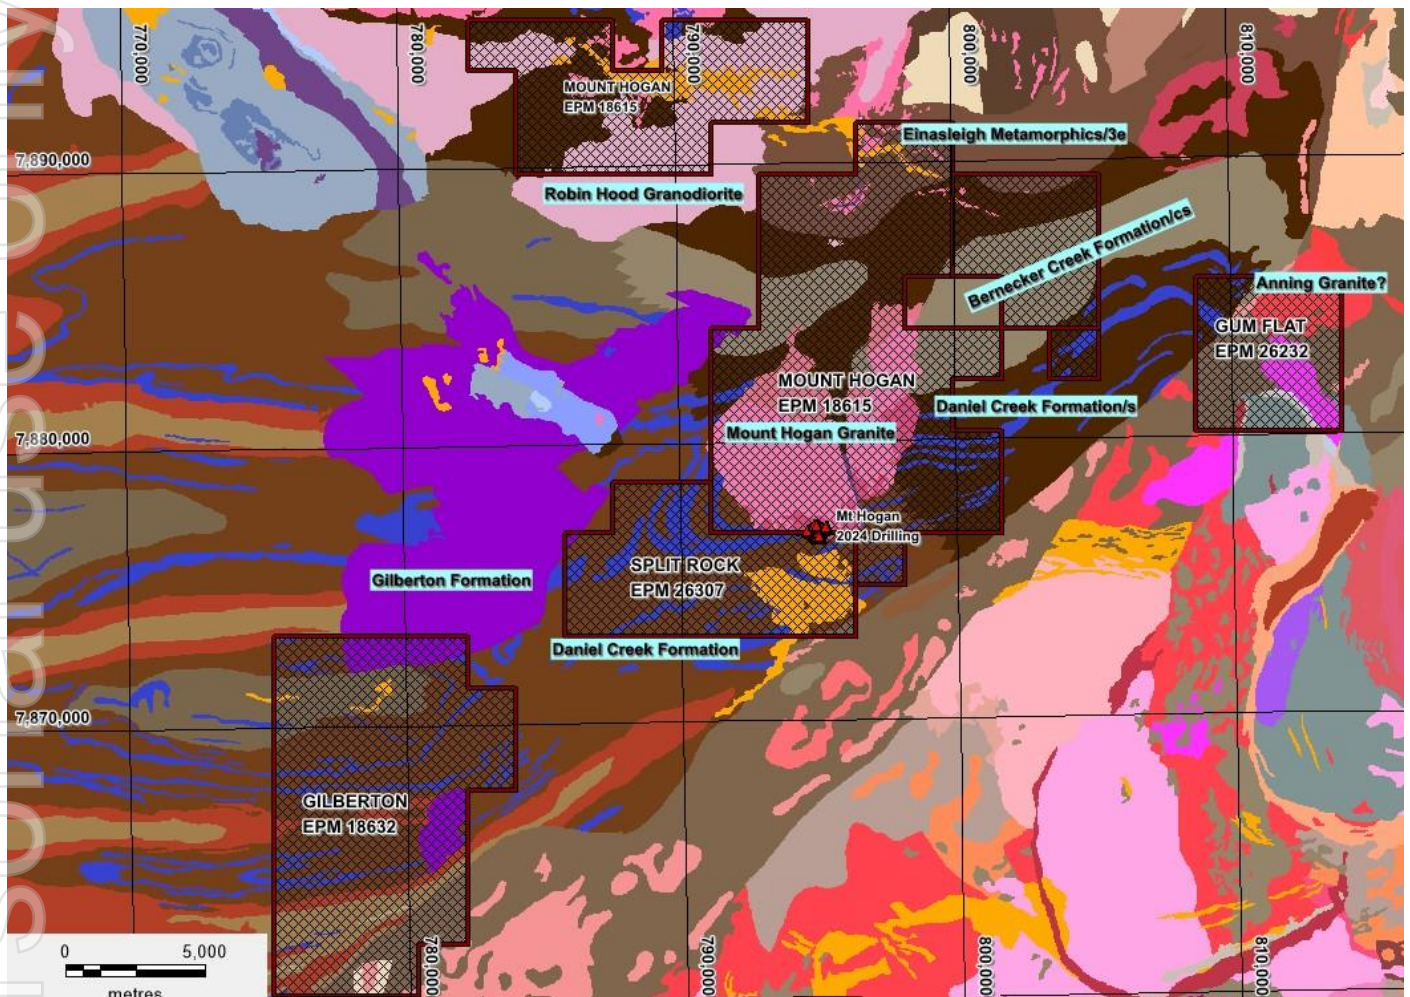

Figure 1 ActivEX Limited Gilberton Gold Project.
ActivEX Limited (ASX: AIV) (ActivEX or the Company) provides the following summary of high-grade drilling results at the Mt Hogan historic gold mine, part of its Gilberton gold project (Figure1).
- The Company successfully completed a 2,416m RC drilling program at the historic Mt Hogan Gold Mine, marking a significant milestone in its exploration journey (Figures 1 & 2).
The Gilberton Gold Project is situated in the Georgetown Province in northeast Queensland, approximately 300km west-northwest of Townsville (Figure 1). The Project consists of EPMs 18615, 18623, 26232 and 26307, which comprise a total of 143 sub-blocks and encompass an area of 370km2.
The Mt Hogan gold deposit is the largest historical gold producer in the Gilberton district at 74,930oz. The deposit is located 18 km northeast of Gilberton Homestead and is hosted in the Devonian age Mt Hogan Granite (Figure 1). The granite pluton is an irregular horseshoe shape in outcrop, 7kms in diameter and has intruded Proterozoic metasediments and mafic intrusives of the Robertson River Subgroup. The granite is composed of green grey (sericite chlorite altered) to pink (fresh), medium to coarse-grained, equigranular, sparsely porphyritic and biotite adamellite. Northern outcrops of the granite appear to comprise less fractionated (more mafic) phases within the intrusion compared to the southern margin of the intrusion. Permo-Carboniferous rhyolite and andesite dykes have been mapped immediately north of the Mt Hogan gold deposit. Drilling at Mt Hogan suggests the southern contact between granite and the surrounding metasediment is near vertical.